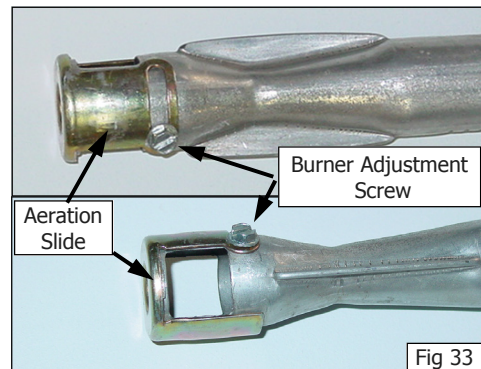

Fig 33
- To adjust the aeration gap, slacken the clamp screw and rotate the aeration slide to the required position and tighten off the clamp screw. (Refer to Fig 33).